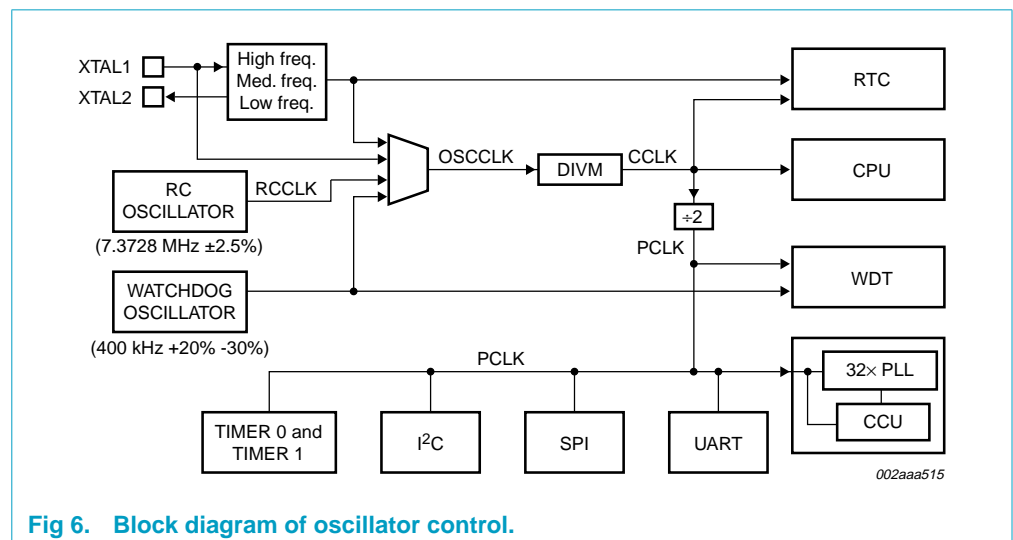

Fig 6. Block diagram of oscillator control.
**OSCCLK** — Input to the DIVM clock divider. OSCCLK is selected from one of four clock sources (see Figure 6) and can also be optionally divided to a slower frequency (see Section 8.7 “CPU Clock \(CCLK\) modification: DIVM register”).